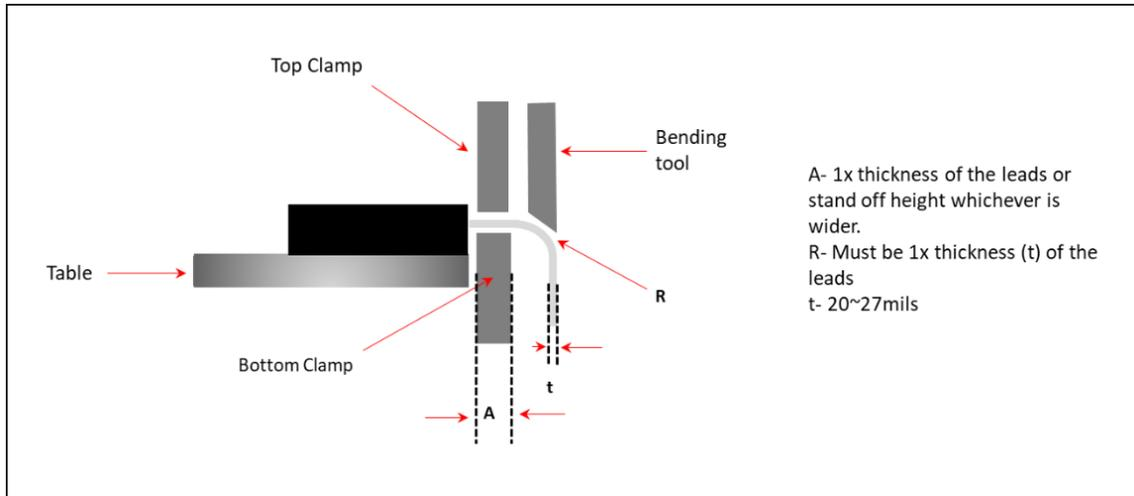

Figure 4. Lead Bending Dimensions
To safely bend the THT package lead, it is important to have clearance from the plastic. A minimum radius of the bend as depicted in Figure 4 must also be maintained to avoid weakening or cracking the leads.
- Maintain the safe distance as stated in Figure 4.